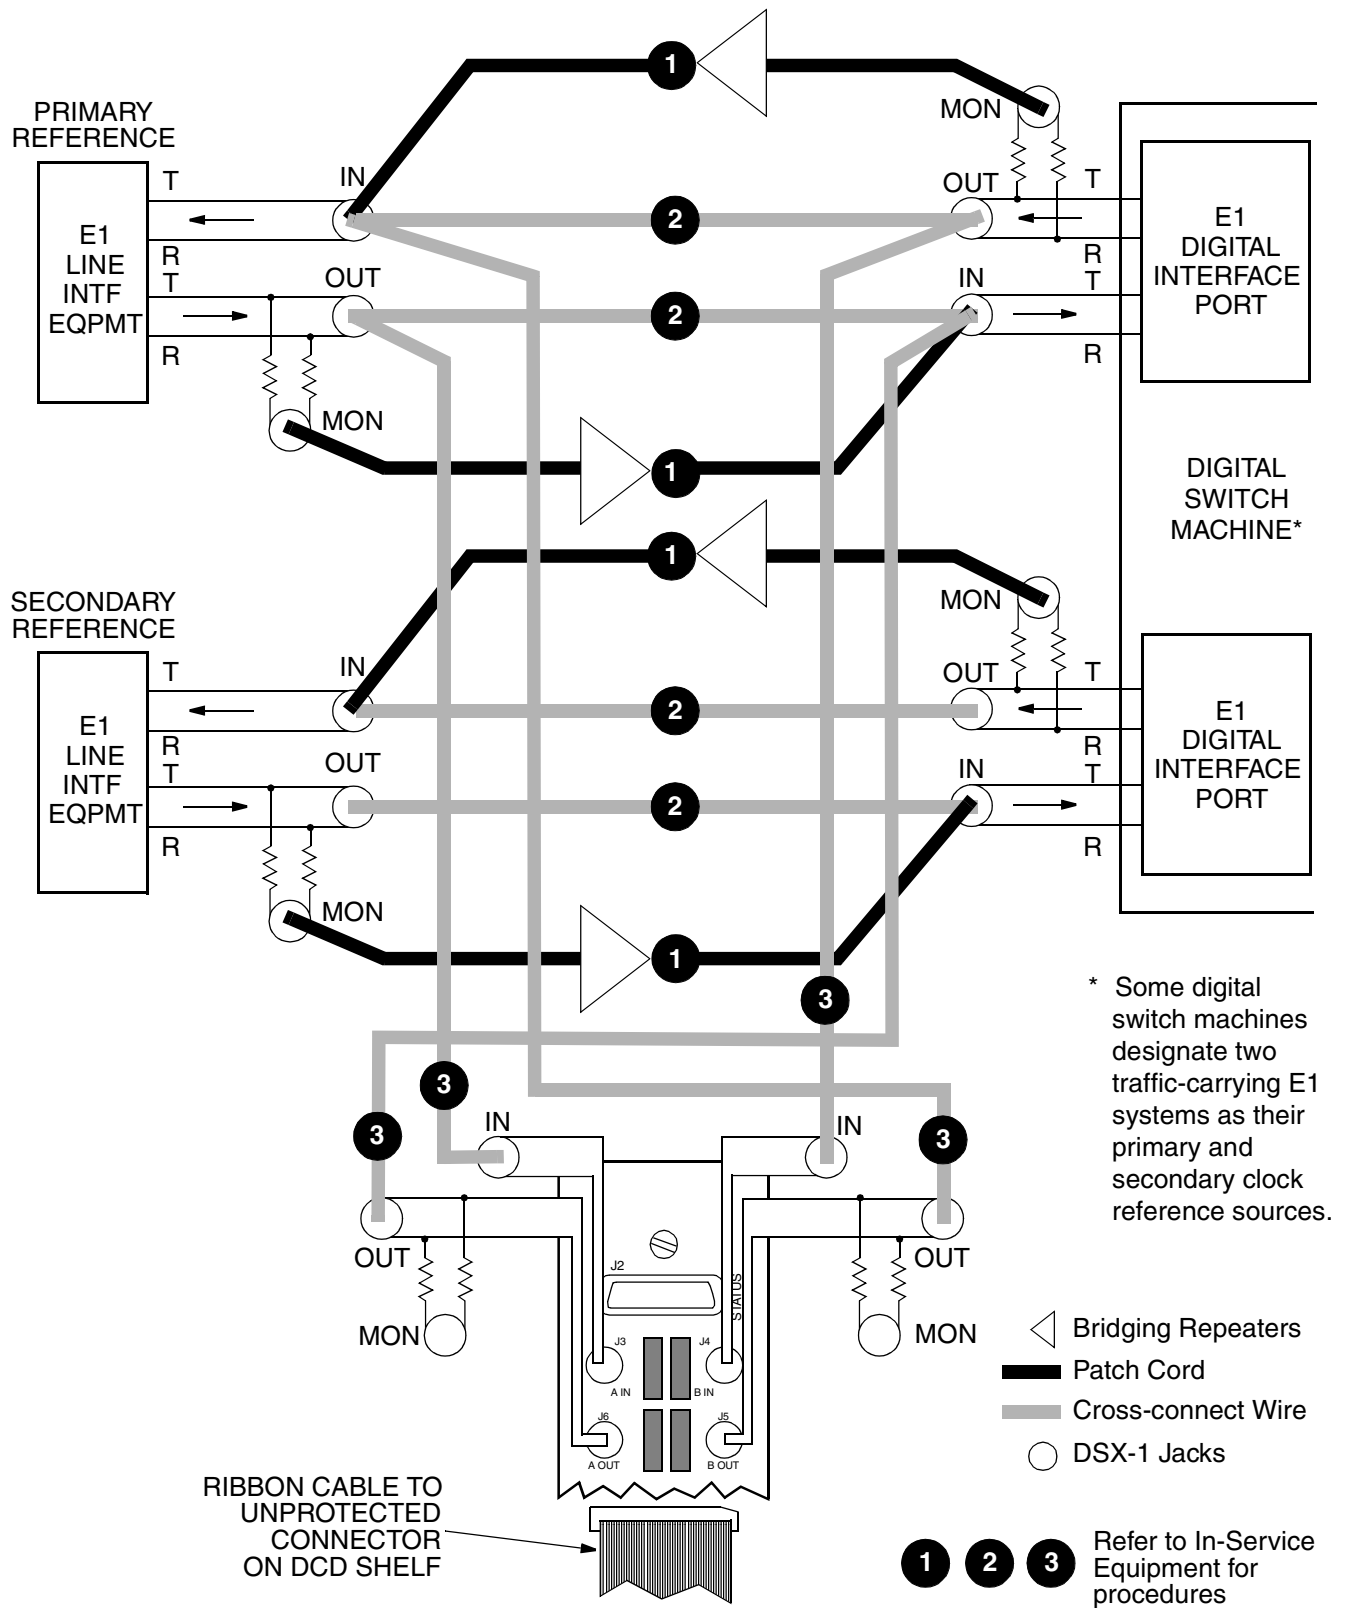
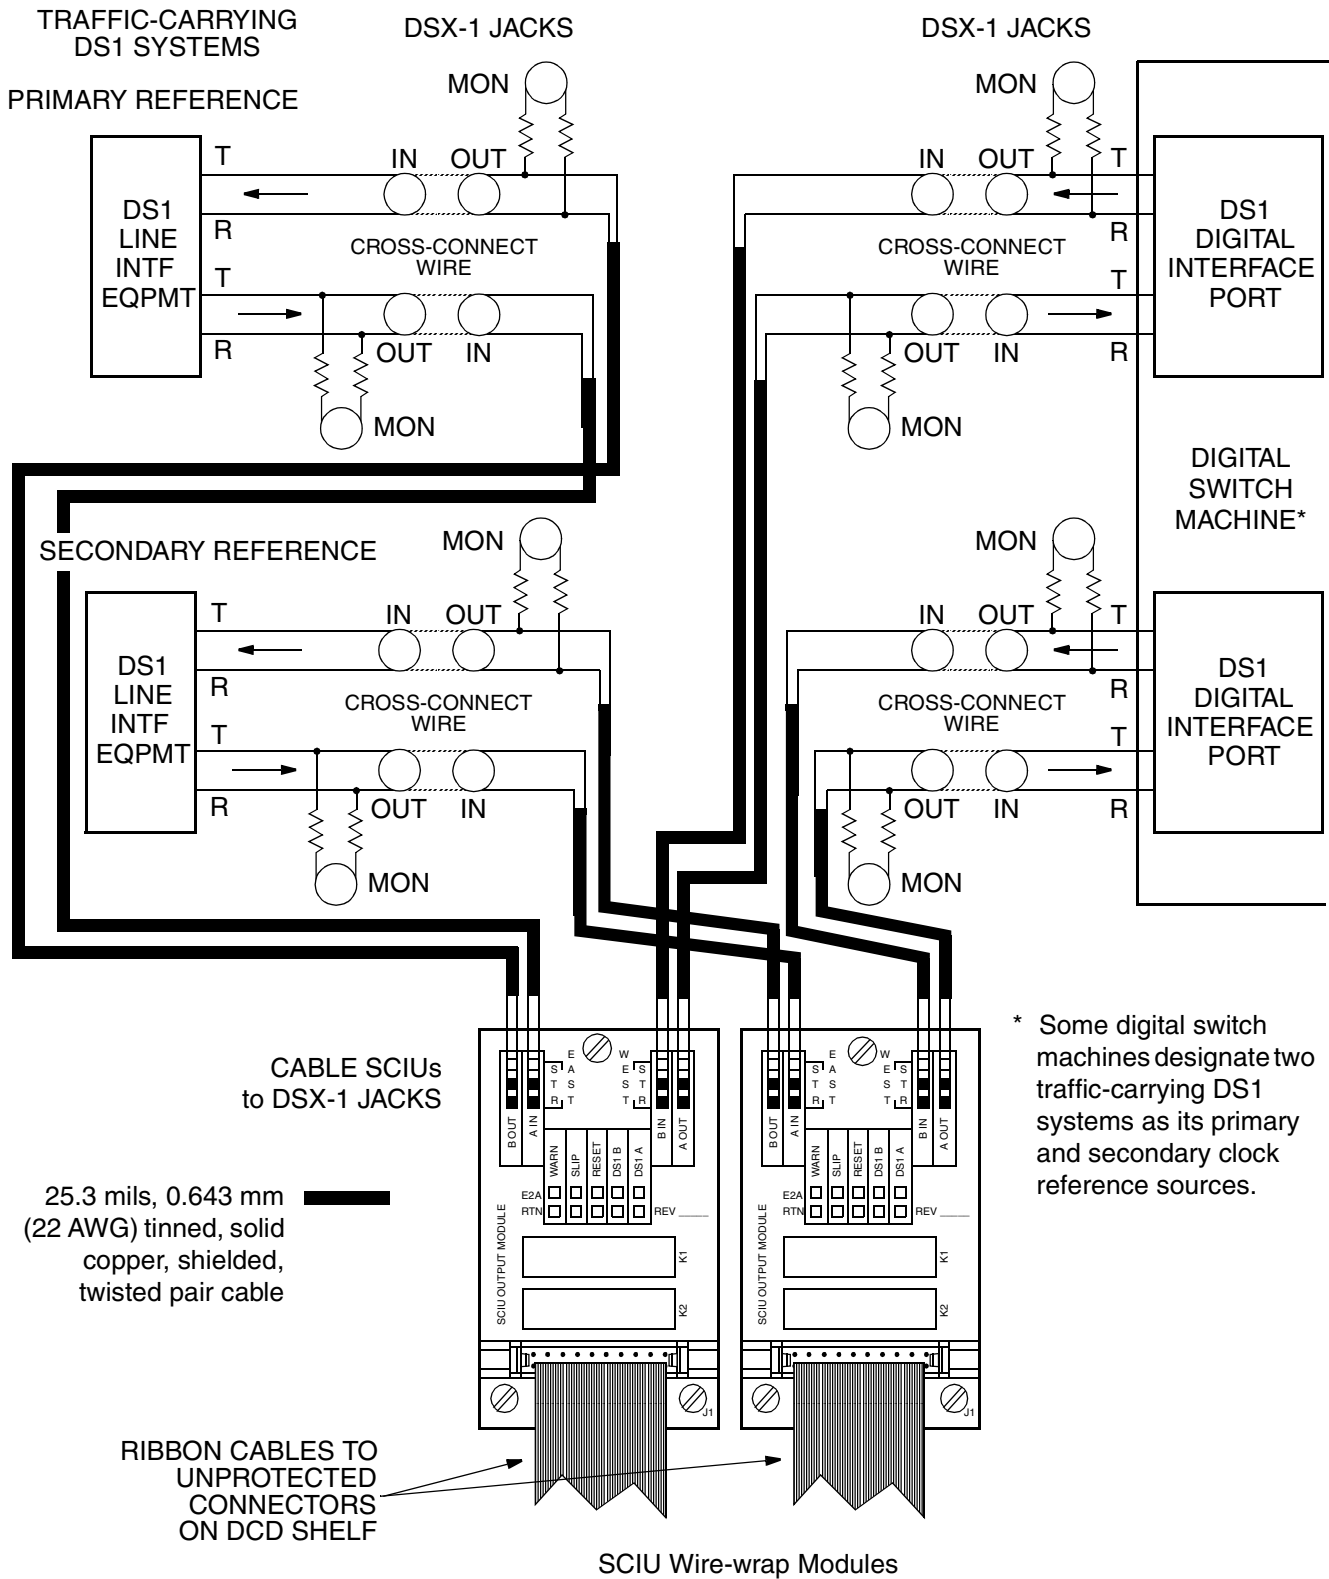

Figure 55. ESCIU Cutover with Jacks (In-Service)
Figure 56. SCIU Cutover with Jacks (In-Service)
5.37 If standard digital signal level access jack sets, such as DSX-1 jacks, were cabled to the ESCIU module, the following in-service cutover procedure must be used. Consult the local company Installation Job Specifications to ensure that the network element to be retimed from the DCD-519 Shelf clock (BITS) will be connected to the ESCIU or SCIU module WEST A OUT terminals (see Figure 51). Refer to Figure 55 or Figure 56 for the following procedure: